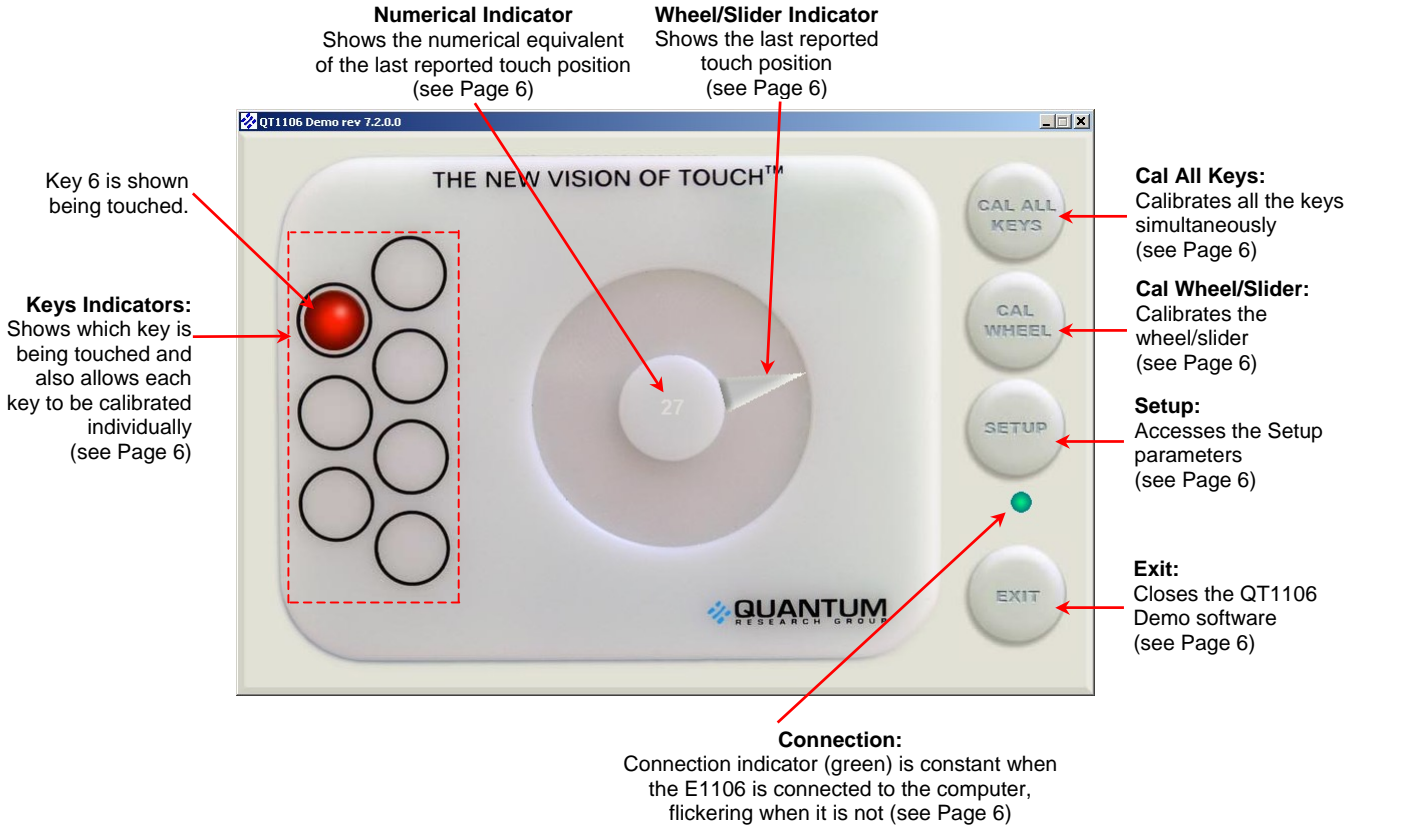
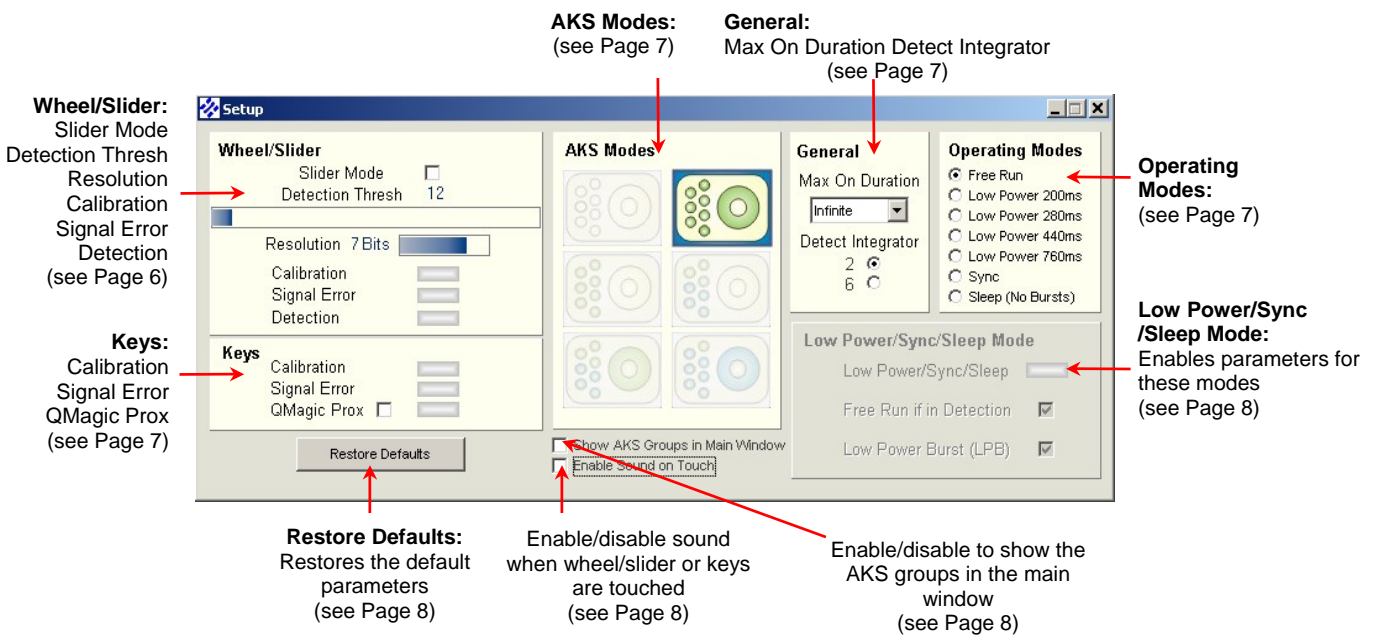

Figure 3: QT1106 Main Window
Figure 4: QT1106 Setup Dialog Box
4. QT1106 Demo software is displayed on the computer monitor (see *Figure 3, page 5*).
3. Depending upon whether the QWheel or QSlide is connected, move your finger about the wheel/slider area of the E1106. As you do so the **Wheel Indicator** shows the last reported touch position (see *Figure 3, page 5*) and the **Numerical Indicator** shows the numerical equivalent (see *Figure 3, page 5*). When you remove your finger, the last position touched will be locked on the display.
The QT1106 Demo software comprises a main window and a setup dialog box. The different parameter areas simulate the effect that changing options has on the device's performance. Any option which is not available appears dimmed. Refer to *Figure 3 and Figure 4, Page 5* to see a depiction of the QT1106 Demo software.